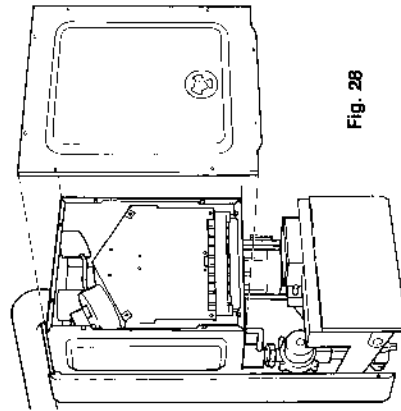

Fig. 28
8.5 **Room Sealed Chamber Front Cover** (including Viewing Window). Part No. 5904 Refer to fig 28
8.5.2 Remove room sealed front cover plate by releasing eight screws (fig 28) and easing cover off. The screws are not captive. Inspect gasket for damage. If damaged, replace.